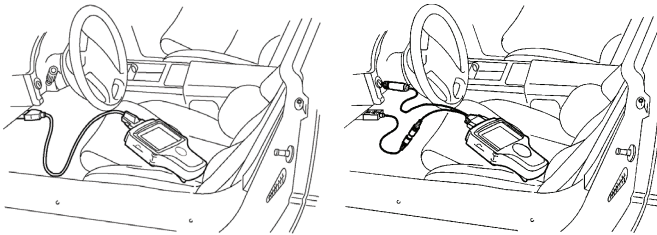

Figure 3.12: Cable Connection to Vehicle DLC: OBD II Smart Cable or System Smart 25-pin cable (shown on left) and DB25 Power Cable
- 5 For the DB25 Power cable, connect the cable's power plug into the vehicle's cigarette lighter receptacle, as shown in Figure 3.12 (on the right).